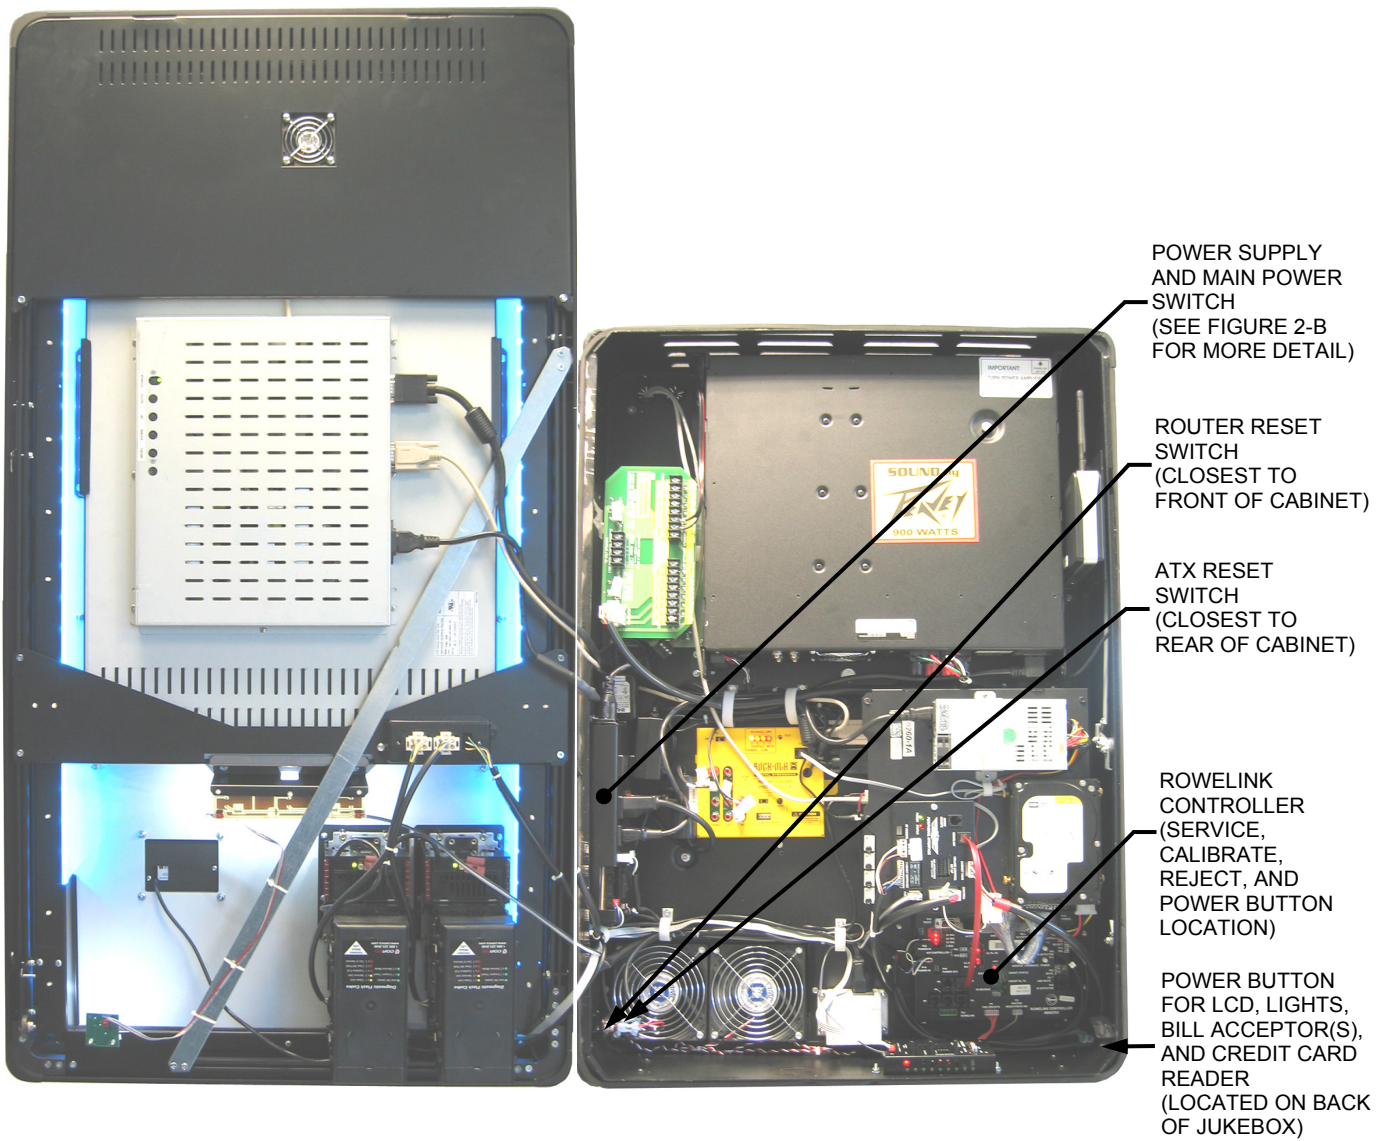
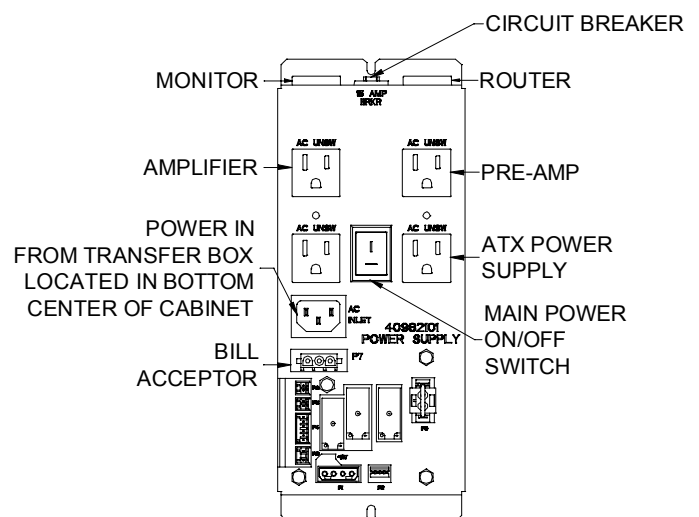

Figure 1-B – Inside View of Jukebox
Figure 2-B – Detail View of Power Supply
The Rock-Star Lx is powered from a standard 115VAC wall plug using the provided power cord. Inside the jukebox, power is routed to a Power Supply assembly located on the left-hand side of the cabinet (see *Figure 2-B*). This power supply includes a 15A circuit breaker and the Main Power ON/OFF switch. All other components in the jukebox are powered by plugging them into this power supply.
- **Power Button** – The Power Button is located on the outside lower-right corner on the back of the cabinet (see *Figure 1-B*). Push this button to enter the soft power down mode, push it again to exit the soft power down mode.
- **Rowelink Controller Power Button** – The button labeled “POWER” on the Rowelink Controller inside the jukebox (see *Figure 1-B*) works in the same way as the Power Button located on the back of the cabinet.
The jukebox core computer can be powered off by pressing the “SERVICE” button on the Rowelink Controller (see *Figure 1-B*), and then touching “Shutdown Jukebox” on the touchscreen. This will turn off the core computer and other components that get their power from the ATX power supply on the core computer. To restore power after turning off the ATX power supply, the jukebox must be rebooted. Reboot the jukebox by toggling the Main Power ON/OFF switch (see *Figure 2-B*), and then back on, or by pushing the ATX Reset Switch (see “Reset Switches”).
There are also hidden reset switches located inside the cabinet on the lower left side (see *Figure 1-B*). These are accessible by either opening the jukebox door, or by inserting a paper clip, toothpick, or other long, thin object through the access holes on the left side of the jukebox.
- The **ATX Reset Switch** resets the computer core. It is the push-button located closest to the rear of the jukebox (see *Figure 1-B*). This is like the Reset Switch on a PC. Pressing and releasing this switch will cause the computer mainboard to completely reboot. Use this switch only if the jukebox is completely non-responsive.
- The **Router Reset Switch** resets the router and, if wired for it, your modem. It is the push-button located closest to the front of the jukebox (see *Figure 1-B*). If the Internet connection is lost for any reason, pressing and releasing this push-button switch may restore normal operation.